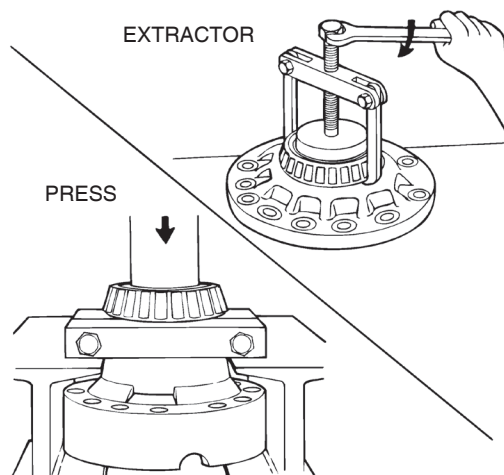

Figure 3.46
- If the bearing cones on the main differential case need to be replaced, use a bearing extractor to remove the cones. Figure 3.46.